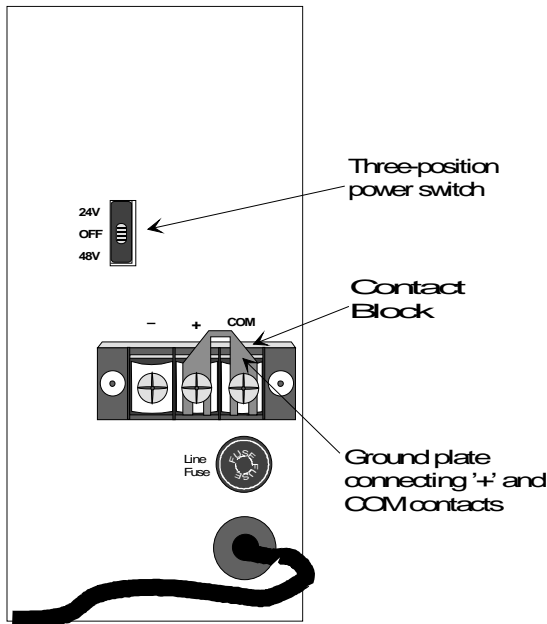

Figure 2-8. Tellabs 8001 Power Supply, Rear View
3. On the back of the power supply, make sure the three-position power selection switch is set to Off (Figure 2-8).
4. On the contact block on the back of the power supply (Figure 2-8), make sure the metal plate is connecting the two contacts labeled "+" and "COM". If it is not, use a screwdriver to loosen the contacts and move the metal plate so "+" and "COM" are connected. Do not tighten the "+" or "-" contact screws yet.